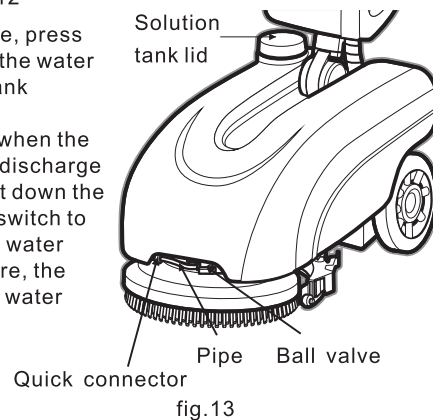

fig.13
- If the machine will not be used for a long time, press the switch of the connector to discharge all the water in the solution tank in case solution in the tank deteriorates. (fig.13)